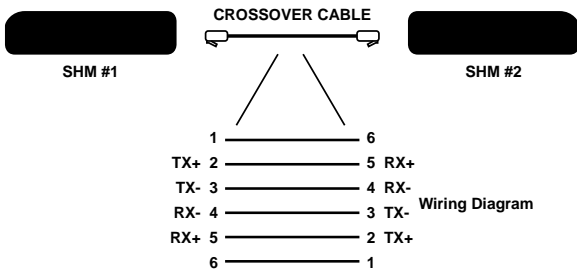

Figure 3. RJ-11 Jack.
1. Connect pairs of modems using a crossover RJ-11 cable (refer to Figure 3). A crossover cable has the RJ-11 tabs on the same side of the cable.